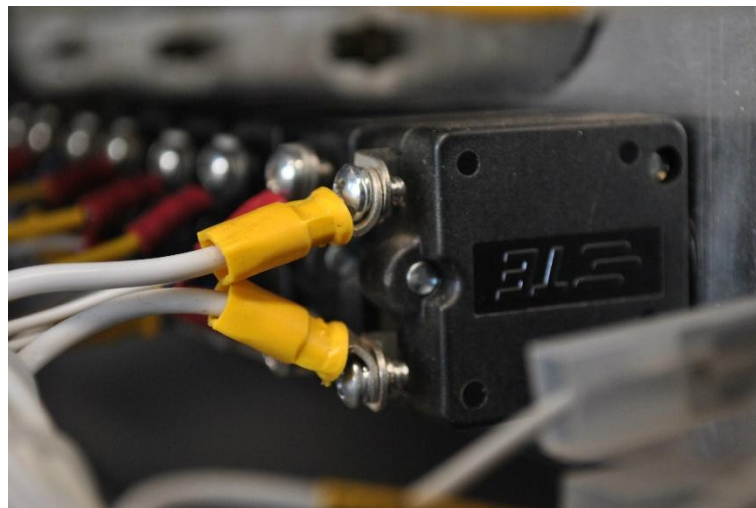

Figure 2: Master Switch Wire Installation
9. Attach them to the master switch as shown in figure 2 below.